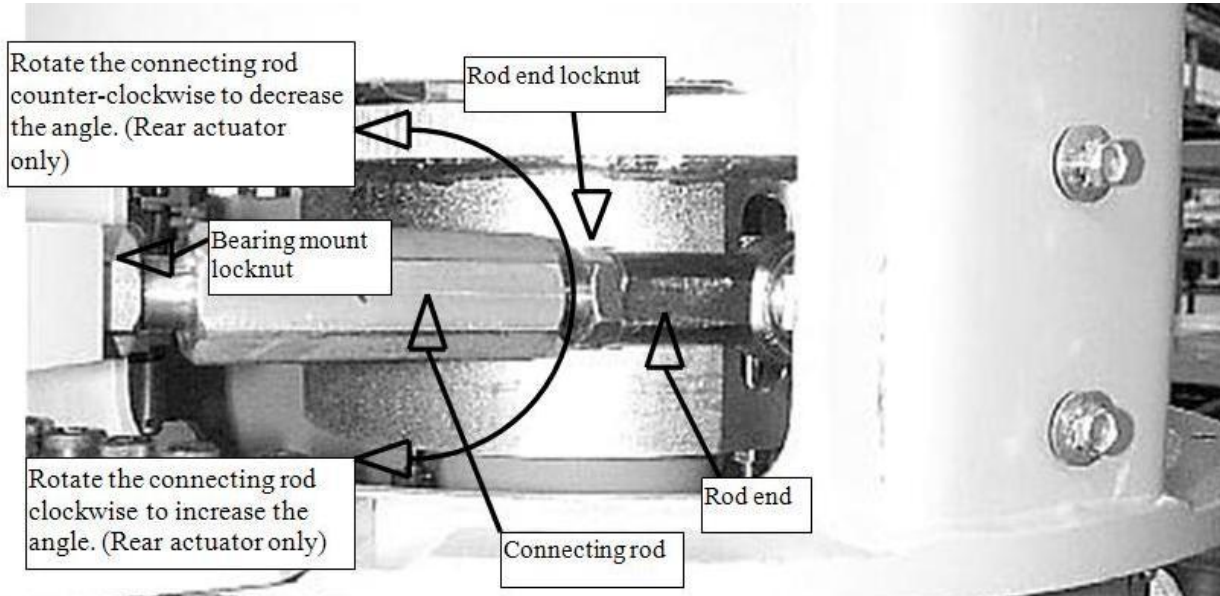

Figure 5.12: Rear Actuator Connecting Rod Length Adjustment
Adjust the length of the rear actuator so that the angle indicated at position 2 is equal to the total angle magnitude of the rear actuator. Referring to Figure 5.12, perform the following procedure:
- Following the steps outlined in section 5.5.6, Figure 5.12, loosen the rod end locknut while holding the rod end in place with the 1", 90° open end wrench.